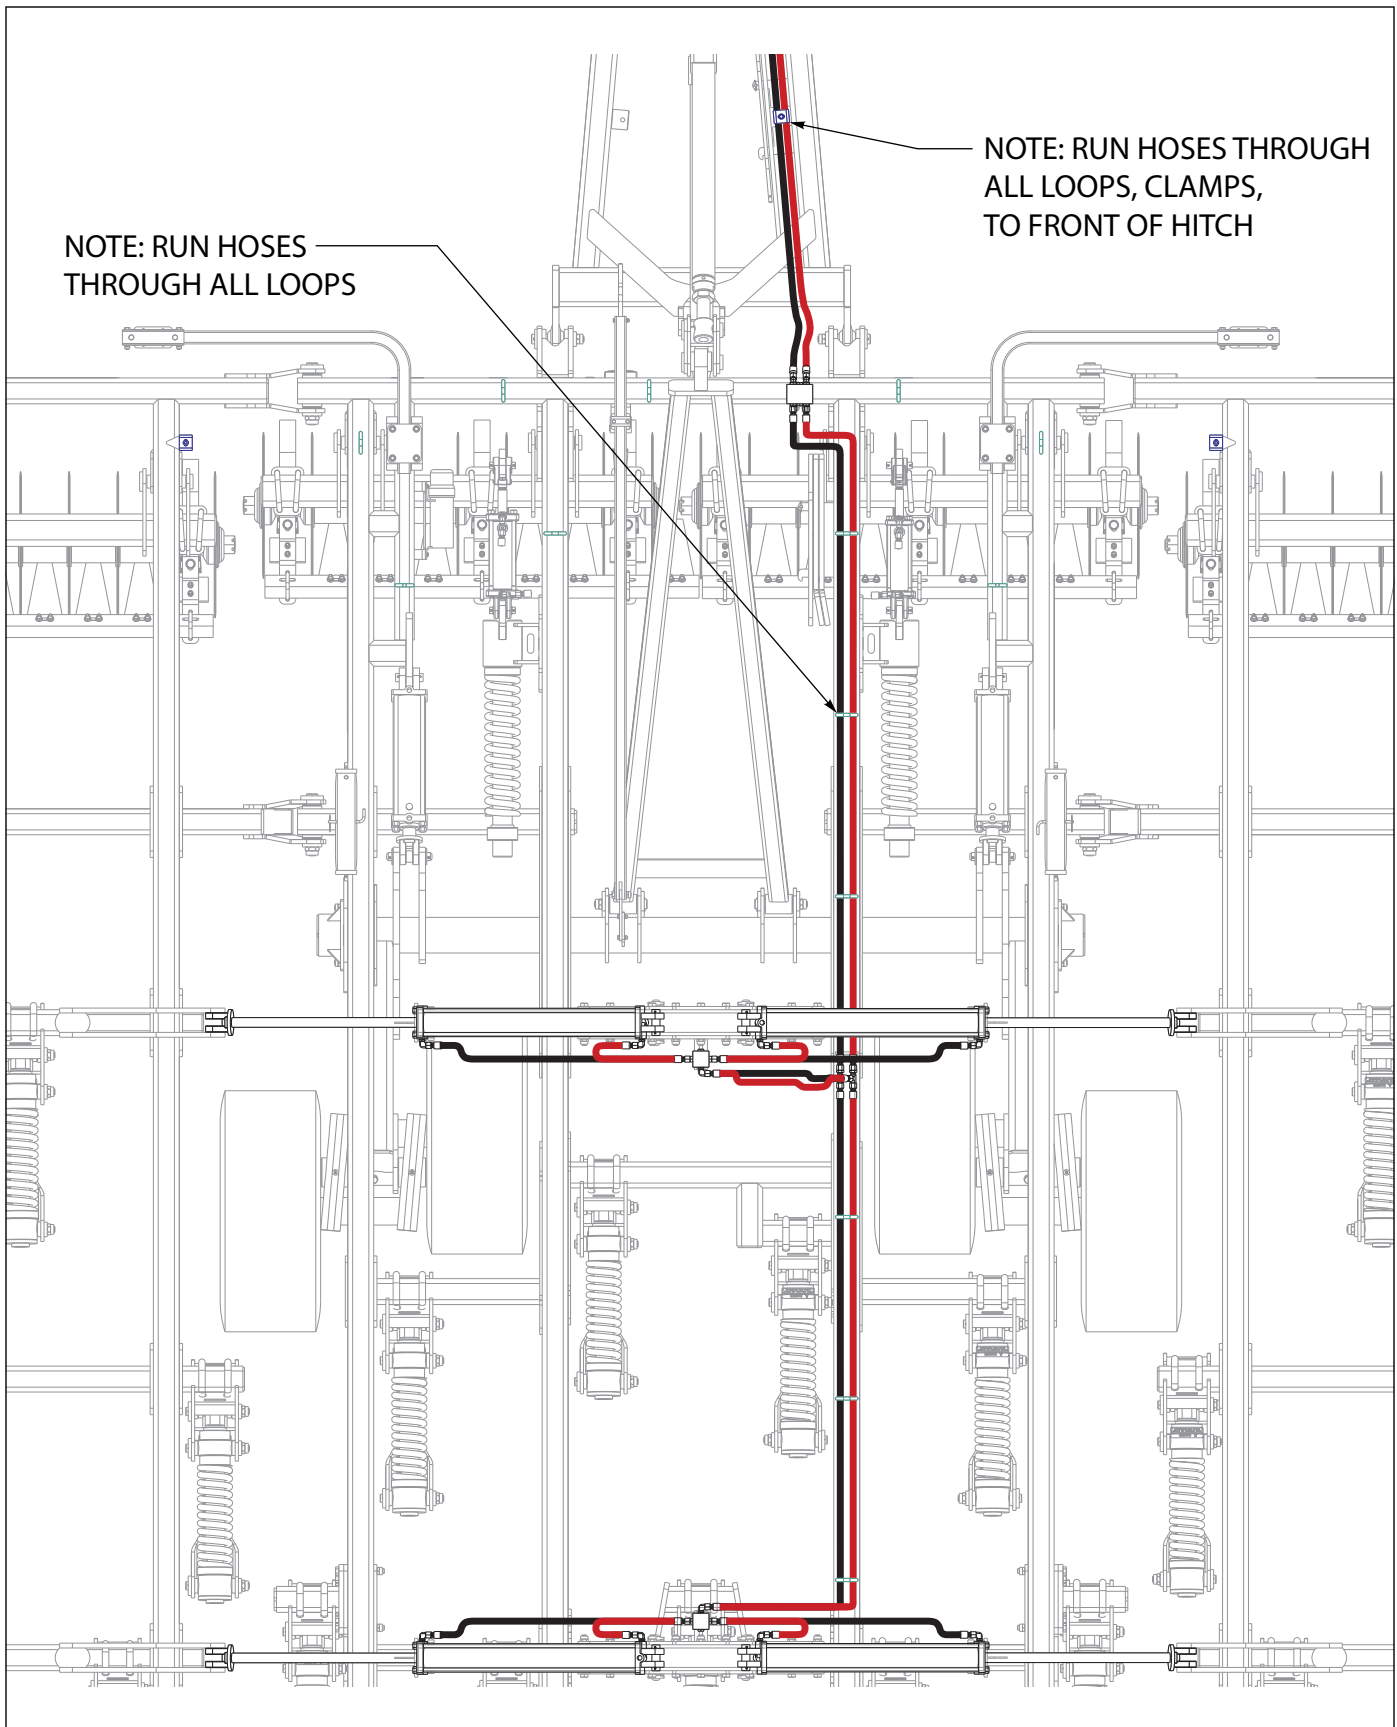
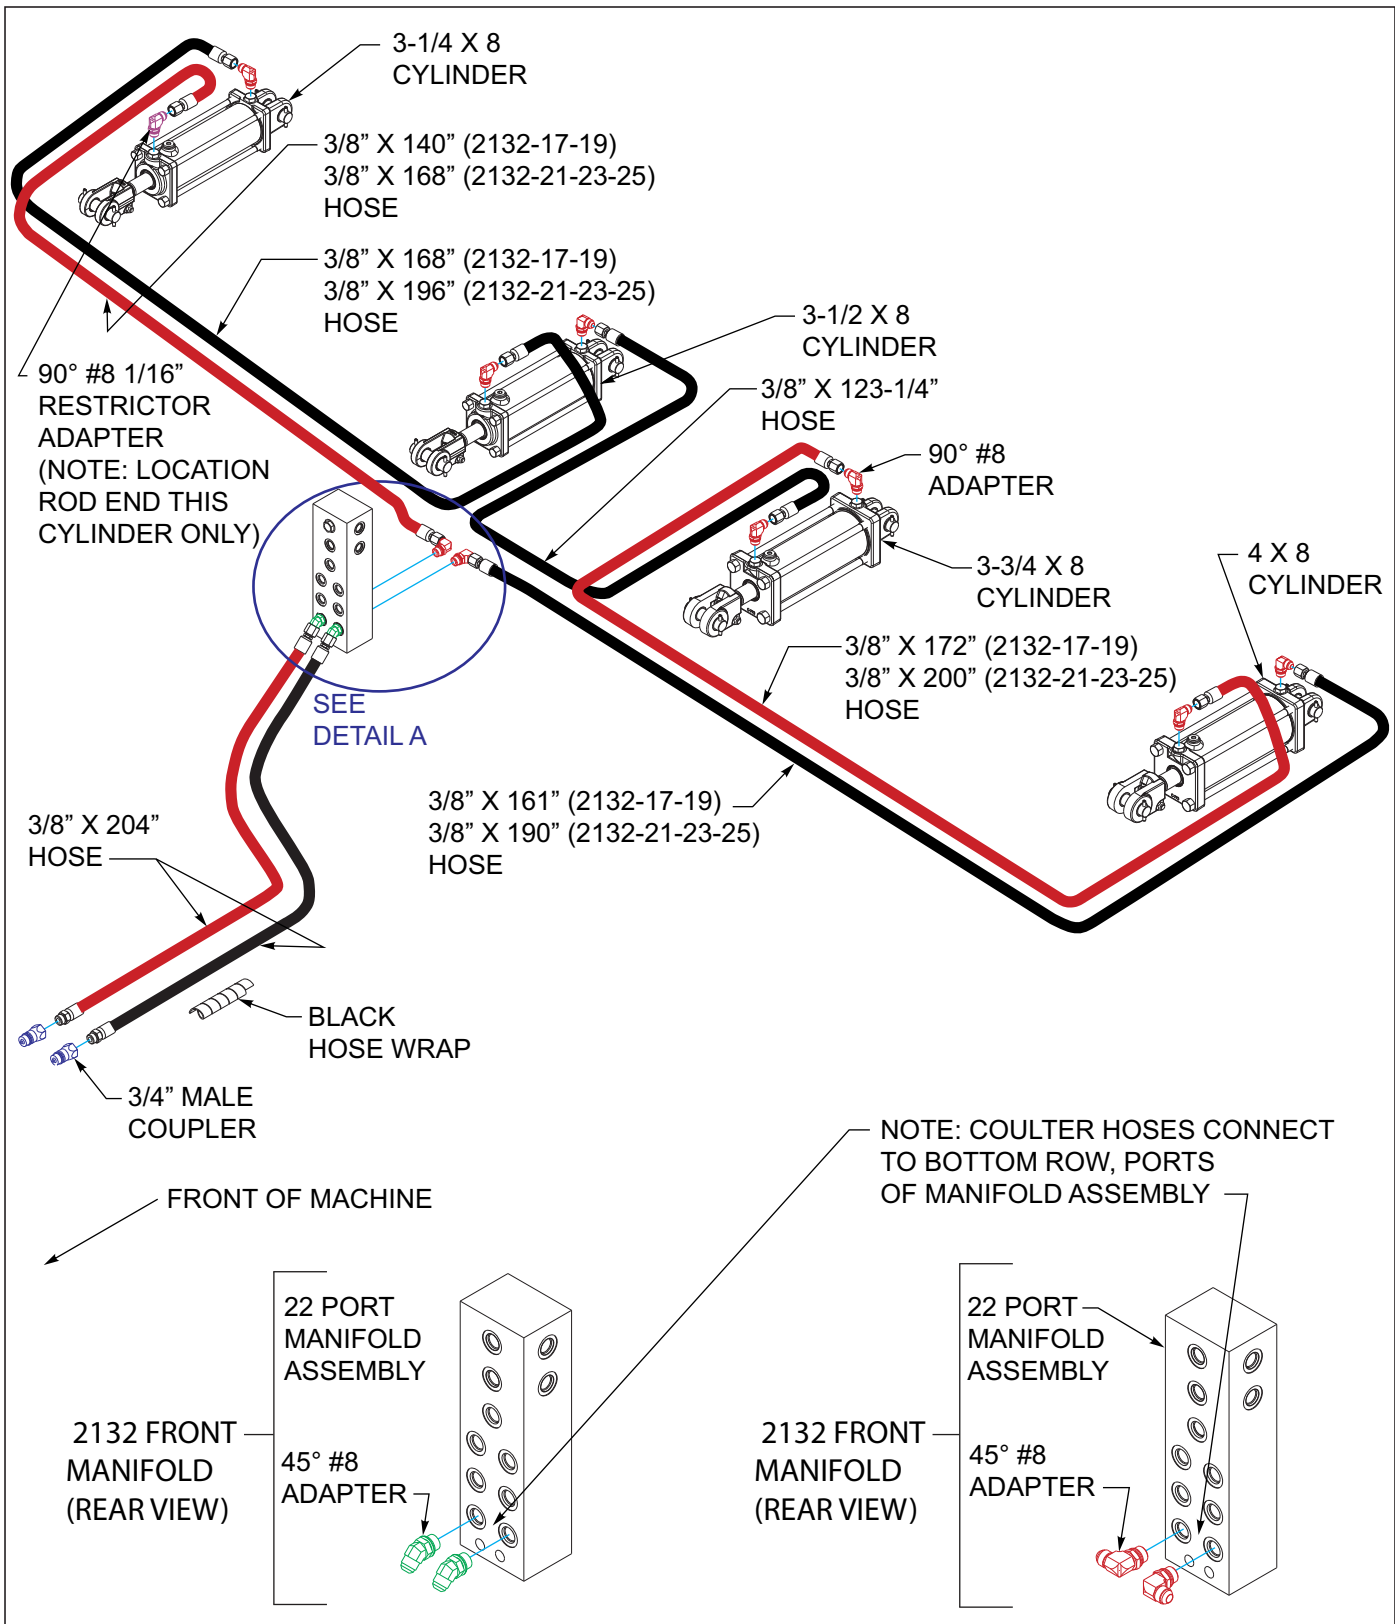

Figure 3-17: Fold Hydraulic Layout 2132-21-23-25
Figure 3-18: Coultter Gang Hydraulic Installation
2. See Figures 3-14 through See Figures 3-17 for fold hydraulic installation.
4. See Figures 3-18 through See Figures 3-17 for coultter gang hydraulic installation.